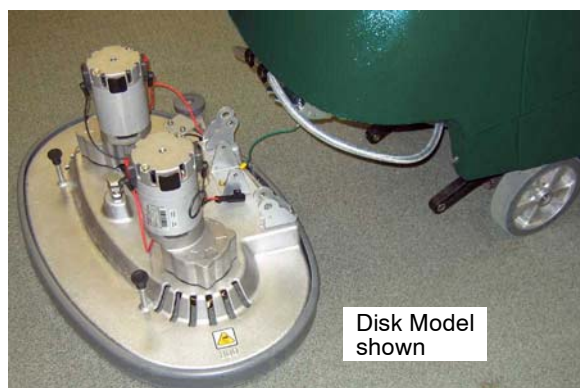

Fig. 1
1. Carefully place the scrub head assembly on the floor in front of the machine (Figure 1).